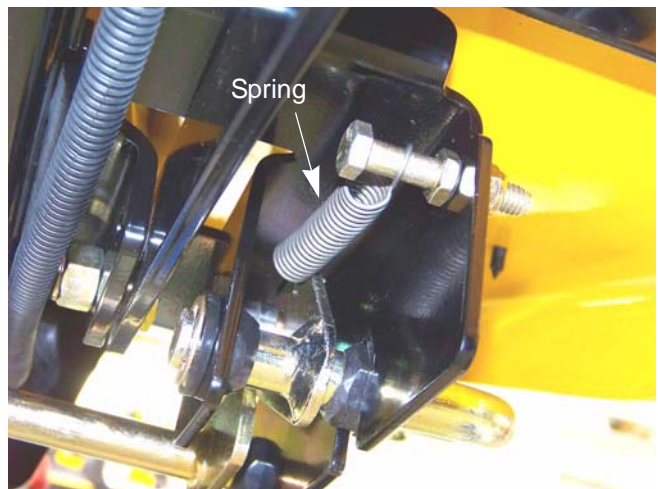

Figure 5.27
5. Disconnect the spring from the bolt in the reverse pedal channel. See Figure 5.27.